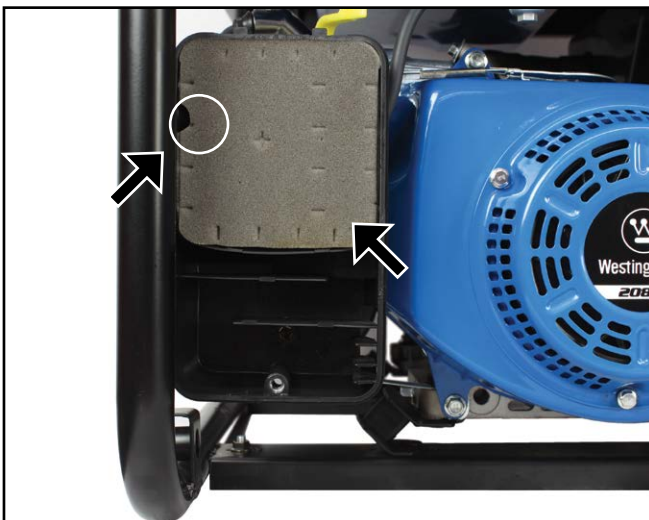
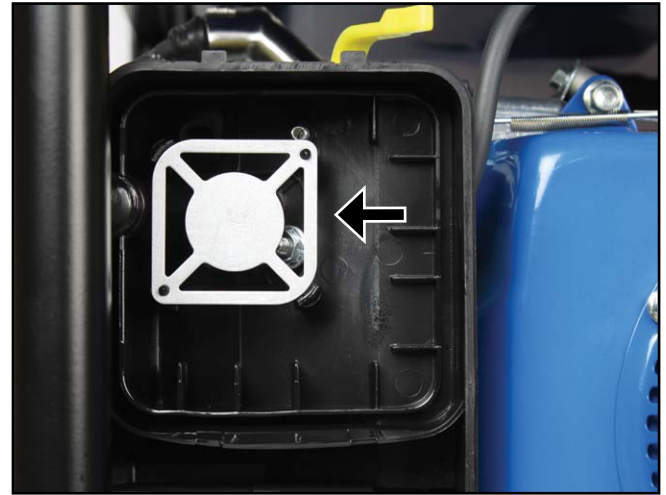

Figure 35 – Removing Air Filter Element
Figure 36 – Position of Metal Backfire Plate
5. Remove the foam air filter element while taking care to note the position of the notch (see Figure 35). The air filter element must be re-installed later with this notch in the same position.
6. Pay special attention also to the metal backfire plate in the upper left corner of the air filter assembly box. This metal plate must be in its proper position when re-installing the air filter element (see Figure 36).
11. Re-install the air filter element inside the air filter assembly box. Make sure the metal backfire plate is in its proper position (see Figure 36) and the notch in the foam is correctly located (see Figure 35).